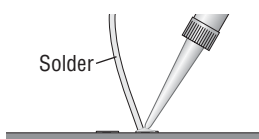

Figure 1.5.
- 1 With a soldering iron and appropriate solder, melt just enough solder onto one pad to create a small mound (Figure 1.5).